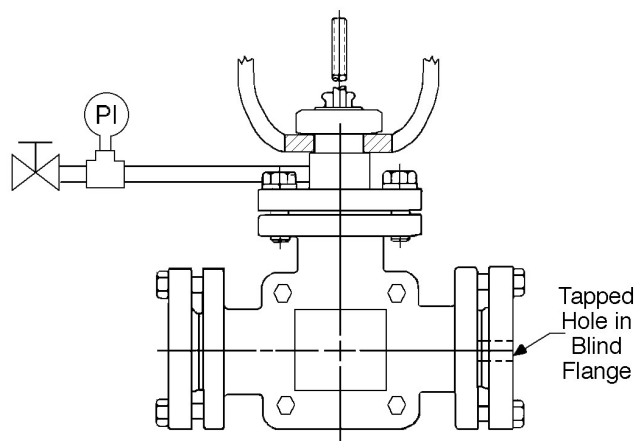

Figure 5: Pressure Boundary Testing Configuration
1. Secure the body assembly (BA) in a vise with the valve stem (9) oriented vertically.
2. Remove vented pipe plug (12).
3. Install a pipe nipple, test pressure gauge and isolation valve into the 1/8"-NPT (female) opening. (See Figure 5.)